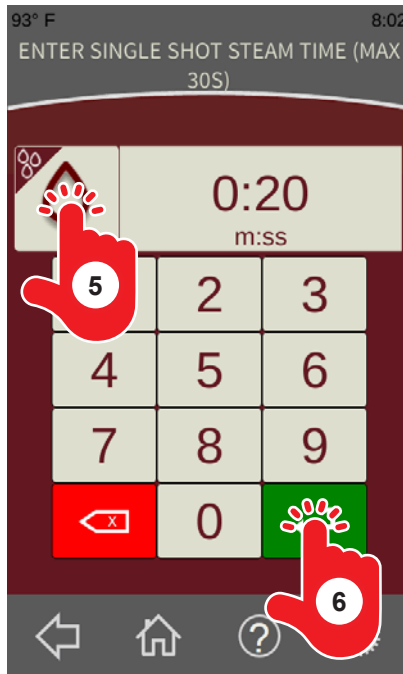

Fig. 9
- From the **Enter Steam Time Screen** (Fig. 9), touch the Steam button to select Single Shot steam or Constant steam.
- Enter the desired time on the keypad and touch the green Enter button (Fig. 9). If Constant steam was selected, continue to enter the time between pulses on the keypad and touch the green Enter button (Fig. 9). The **Fan Delay Time Screen** should be displayed.